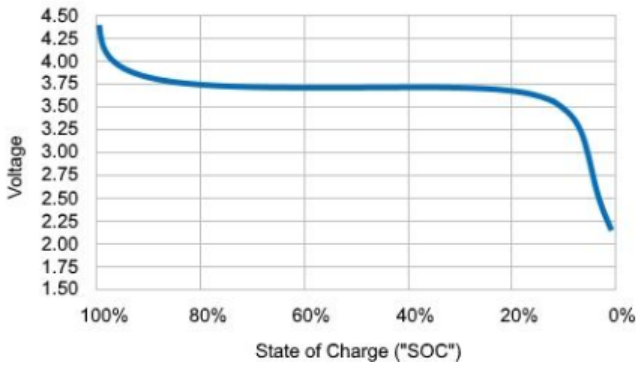

Figure 5 Typical Li-ion discharge curve
**OCV estimation:** The OCV is a function of SOC & Temperature, so the 2D LUT is used. The figure 5 shows the SOC & OCV Simulink model.